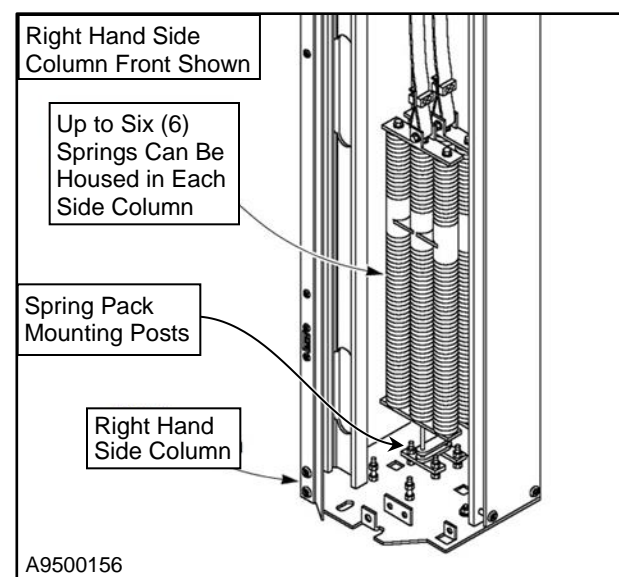

Figure 39
4. Inspect each spring pack assembly. Springs should not be stretched, worn, or damaged. Replace the spring pack(s) if necessary. Tighten the fastener hardware as required. Replace any missing or damaged hardware. (See Figure 39)